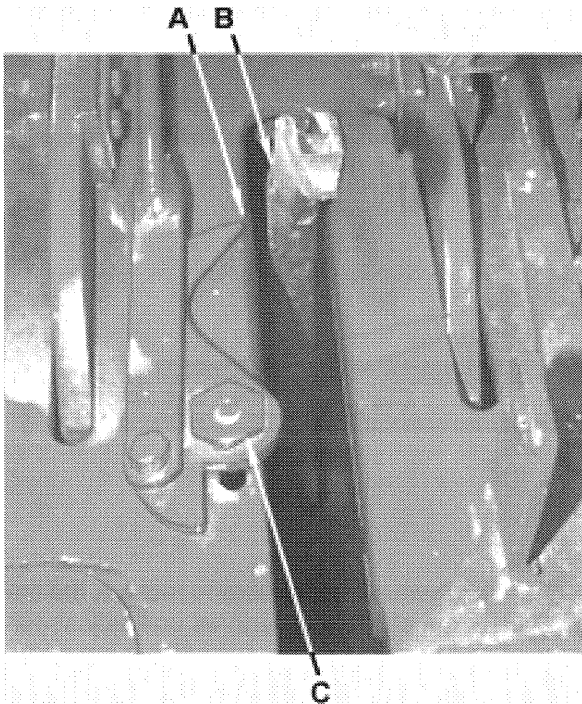

Fig.8
A. Trip the knotter and turn the flywheel clockwise until the point of the twine finger "A" is just passing the inside edge of the needle "B". The point of the twine finger should clear the needle by $\frac{1}{8}$ ", *Fig.8*
After adjusting the twine fingers, turn the flywheel clockwise until the twine fingers are in the returned position. Check to see that there is $\frac{1}{8}$ " from the tips of the twine fingers to the edge of the needle slots "A," *Fig.8*.